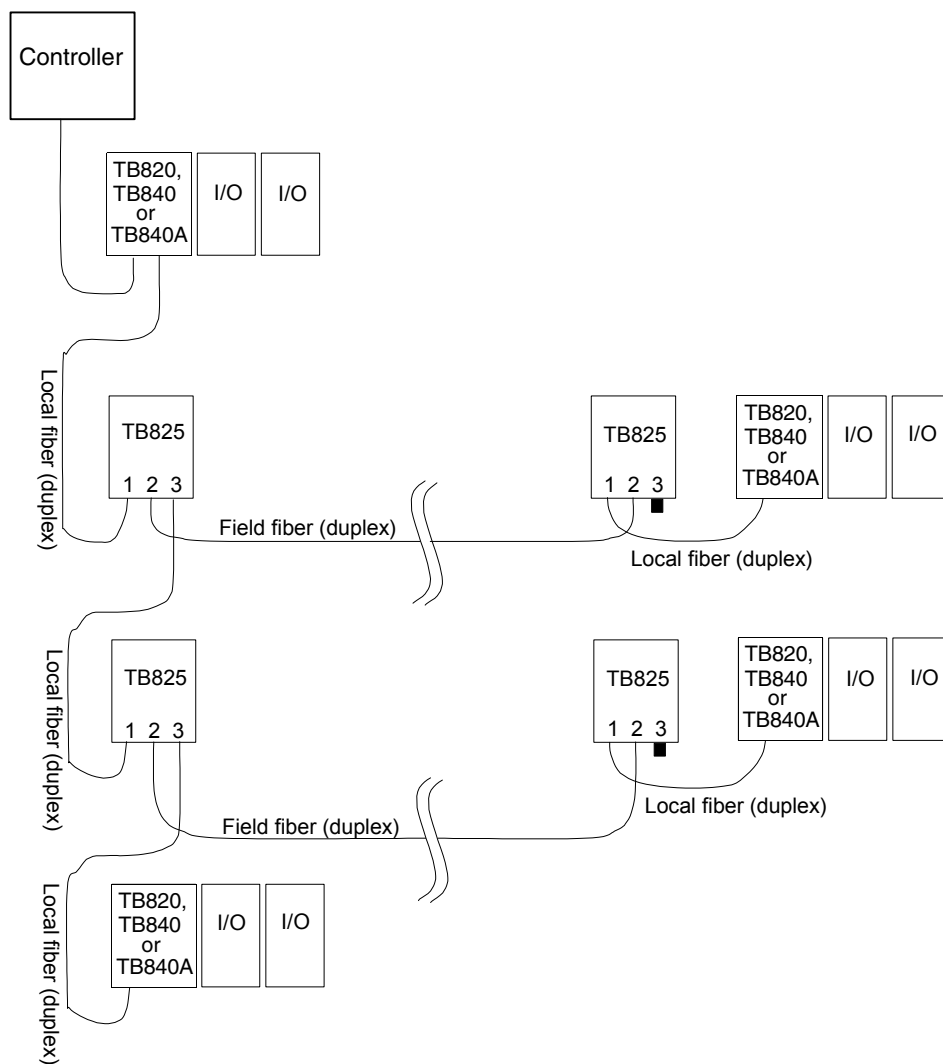

Figure 12. ModuleBus configuration with Optical Media Converter TB825
- star configuration with the optical Media Converter. See Figure 12.